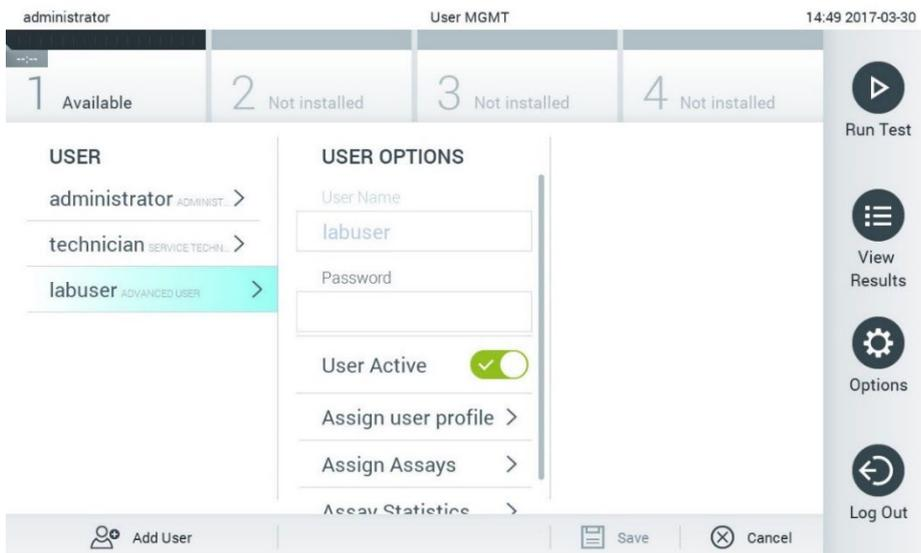

Figure 60. Selecting and managing users.
2. Select the user to manage from the list in the left column of the content area (Figure 60).